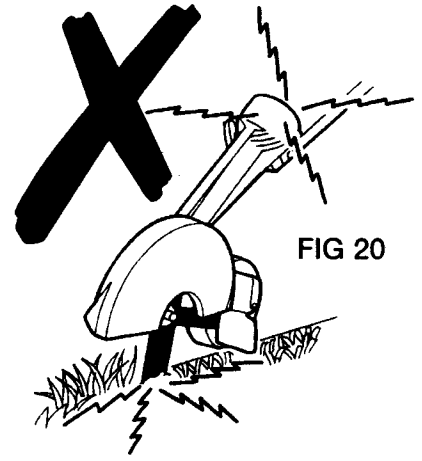

FIG 20
9. If blade jams or stops in the ground (Fig. 20), lower handles or pull back unit and recommence. Engine speed should be full throttle under load.